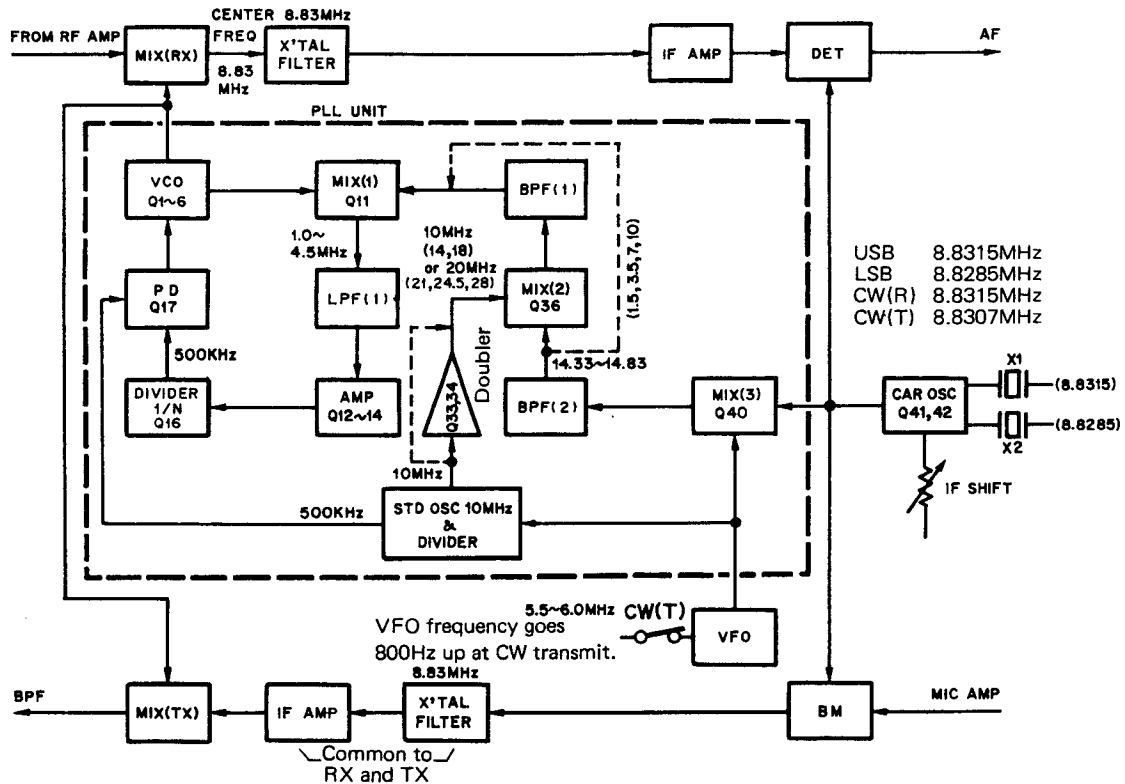
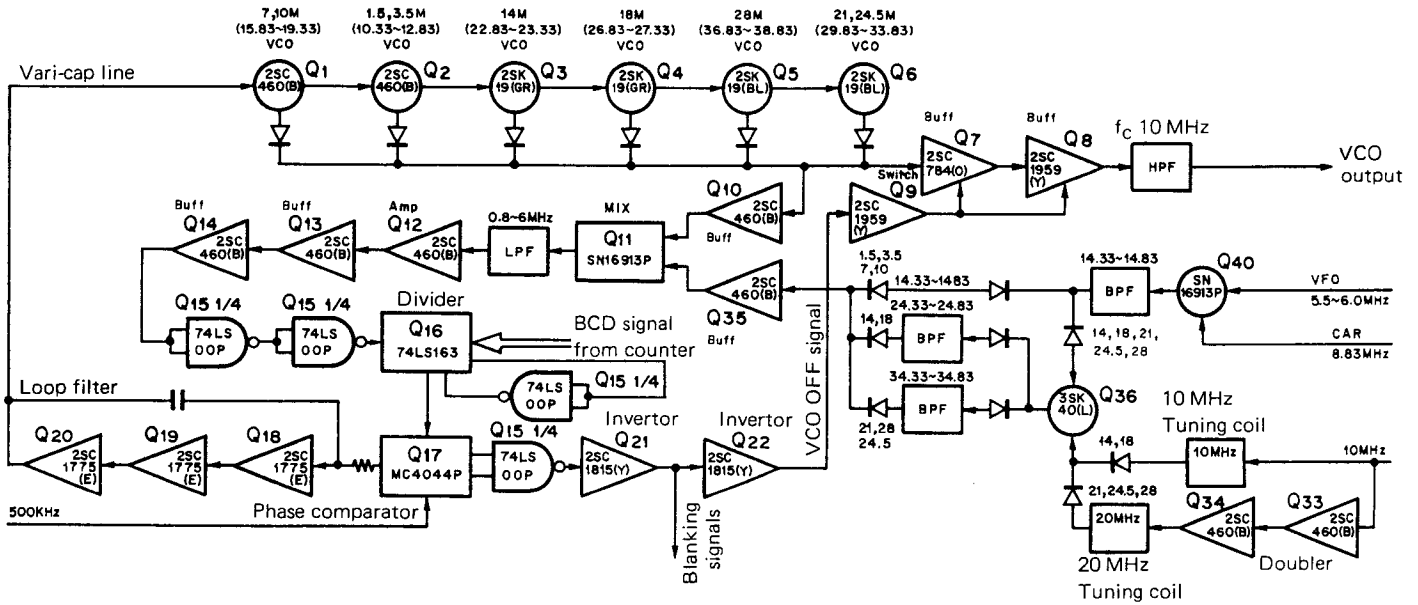

Fig. 1 TS-530 Frequency configuration
Fig. 2 TS-530 PLL circuit configuration
Frequency organization of the PLL circuit is shown in **Fig. 1**, the circuit diagram in **Fig. 2**, and frequency organization in other circuits is summarized in **Table 4**. Please refer to **Fig. 1** when reading the following description of PLL circuit operation. MIX (3), a double balanced mixer, mixes the CAR output with the VFO output. MIX (2), which operates for the 18MHz band and above, mixes either 10 MHz, in the 14 and 18 MHz bands, or 20 MHz, in the 21, 24.5 and 28 MHz bands, with the output of MIX (3) to generate the appropriate frequency needed for each band, as shown in **Table 4**.
The CAR oscillator consists of a crystal controlled oscillator which uses two crystals : one for LSB and the other for USB and CW . Frequencies generated are shown in **Fig. 1**. The oscillating frequency can be varied by the IF SHIFT control during reception.